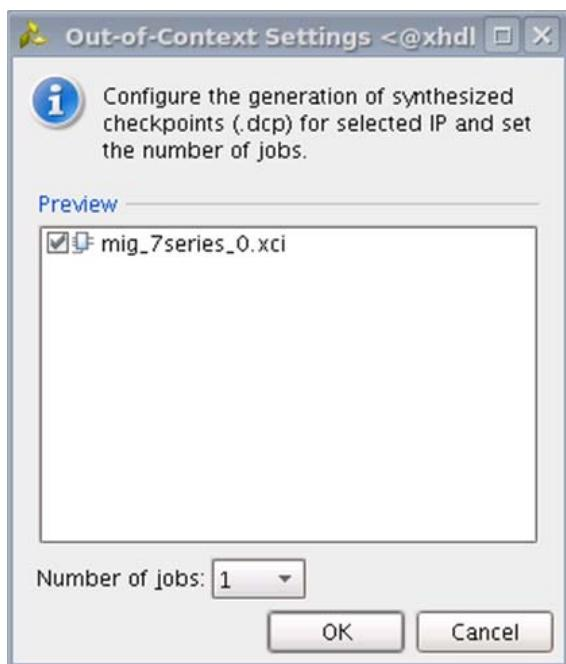

Figure 1-30: Out-of-Context Settings Window
2. Click **Out-of-Context Settings** to configure generation of synthesized checkpoints. To enable the **Out-of-Context** flow, enable the check box. To disable the **Out-of-Context** flow, disable the check box. The default option is "enable" as shown in Figure 1-30.